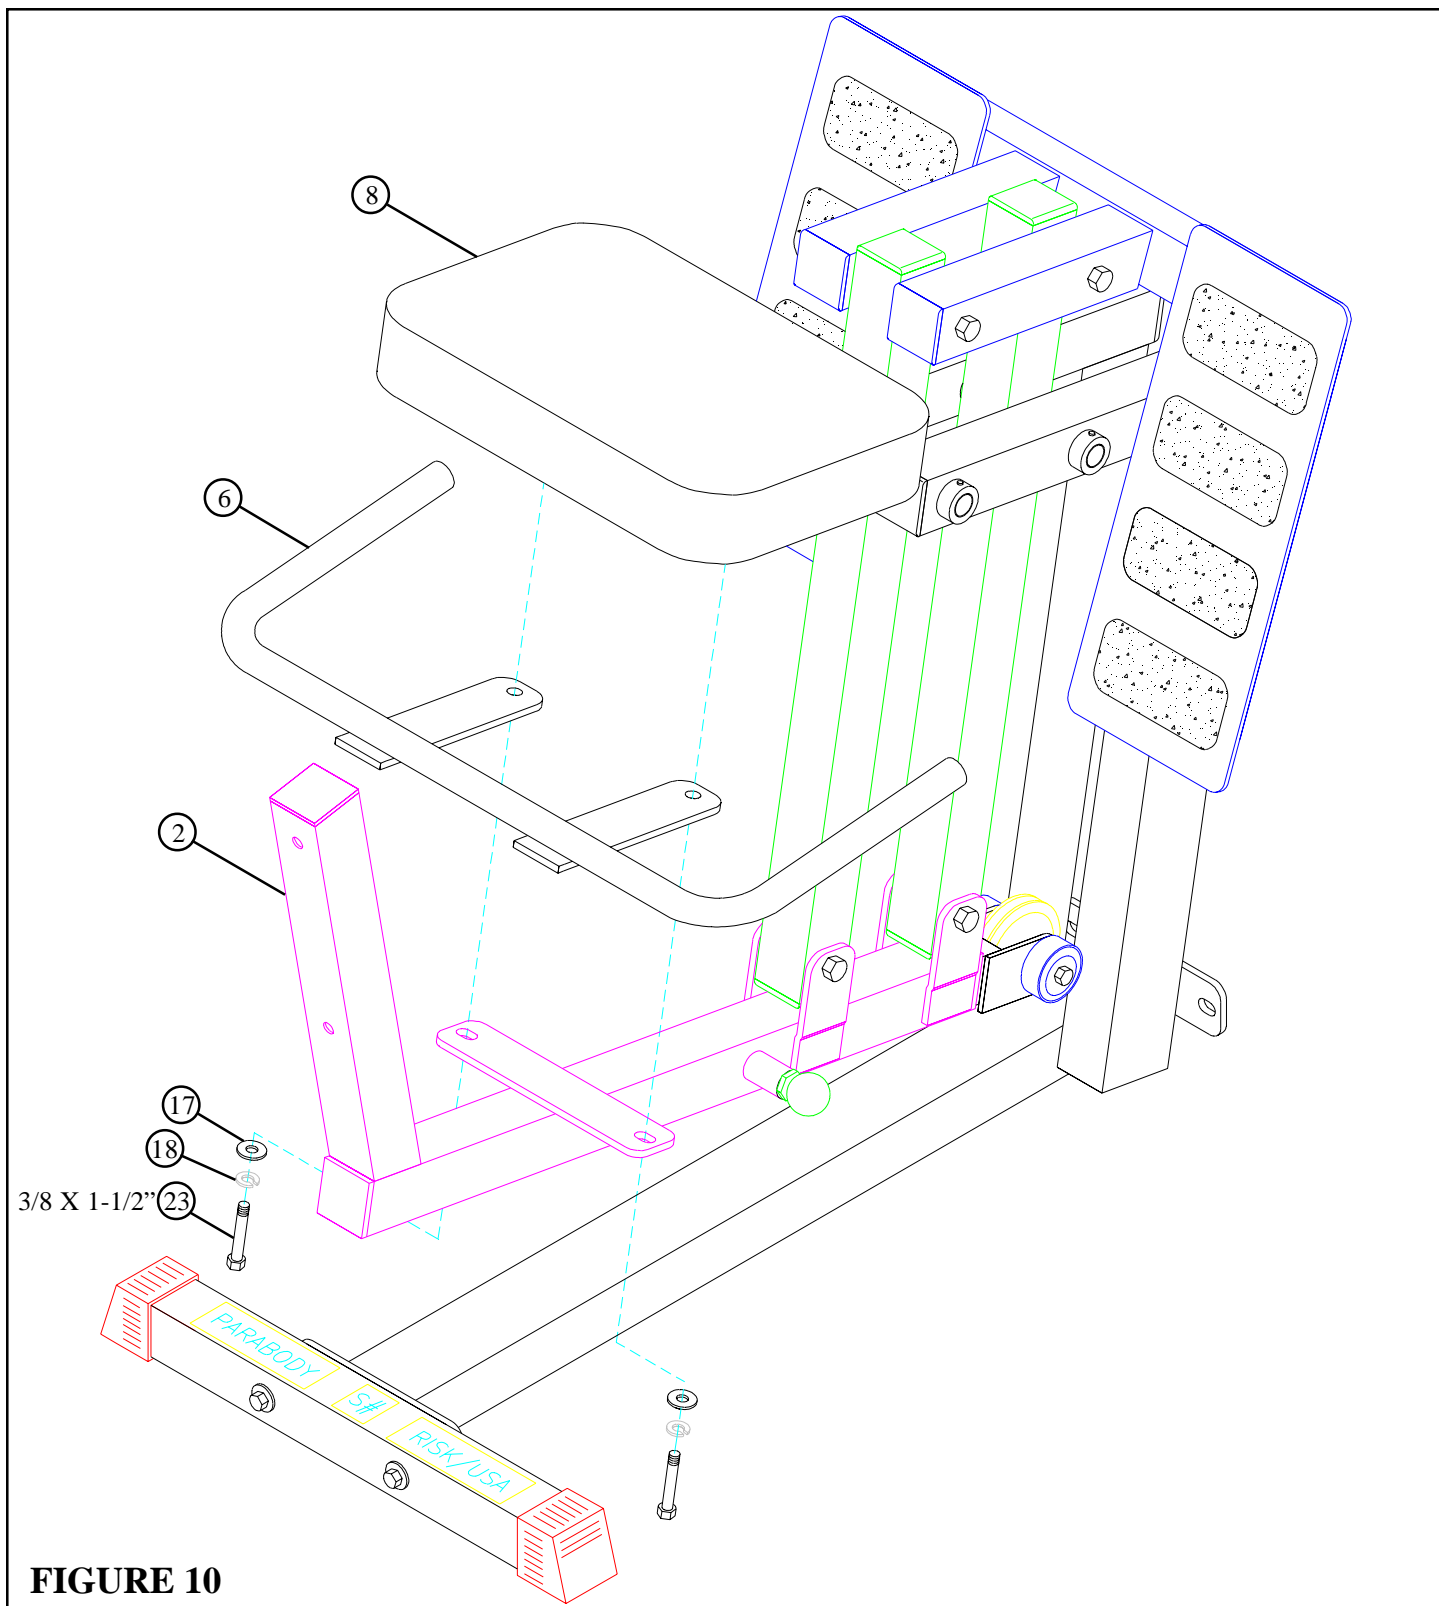

**FIGURE 9**
- **SECURELY** assemble the SEAT FRAME (2) to the LEVER TUBES (5) using two 1/2 X 3-1/4" BOLTS (27) and two 1/2" LOCK NUTS (21) as shown in FIGURE 9.